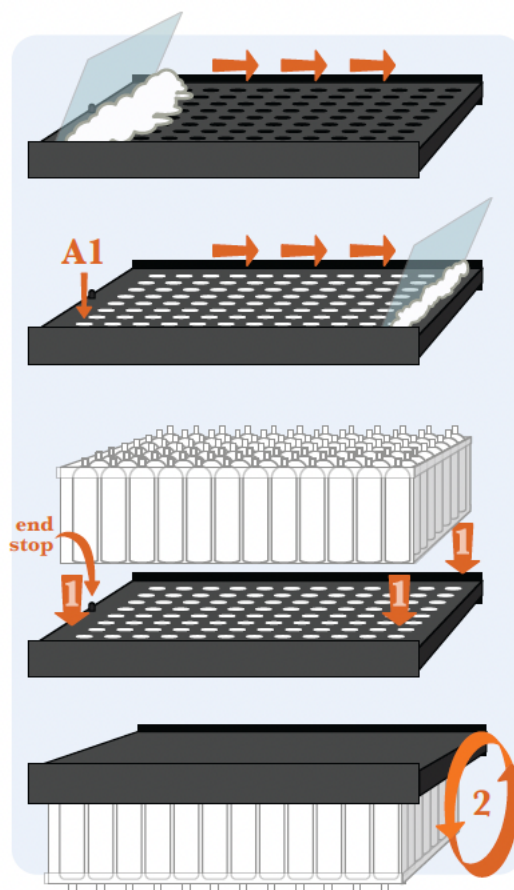

Figure 4.2 MultiScreen Column Loader Plate Stacking Guide
* Note: Tape off wells you don't want to fill by using paper adhesive tape. Remember that the first column of the black MultiScreen Column Loader starts with H1 on the top left and ends with A1 on the bottom left (inverse of the final plate). See Figure 4.2.
If any wells were taped off, remove the tape before sliding the empty, clean Nunc Deep-Well Fritted Filter Plate into place, upside-down, onto the MultiScreen Column Loader, so the top of the plate is resting on the top of the loader. Be certain to push the plate up against the end stop of the loader so all the wells are aligned (See Figure 4.2).
Step 3. Squeeze the plate and loader together and turn the entire assembly over so the filter plate is now right-side-up (see Figure 4.2). Set the assembly down on the bench with the loader and filter plate still together. Tap the loader plate gently with your fingers to ensure all resin has fallen to the wells of the filter plate. Remove the loader from the top of the filter plate and assure no particles remain.